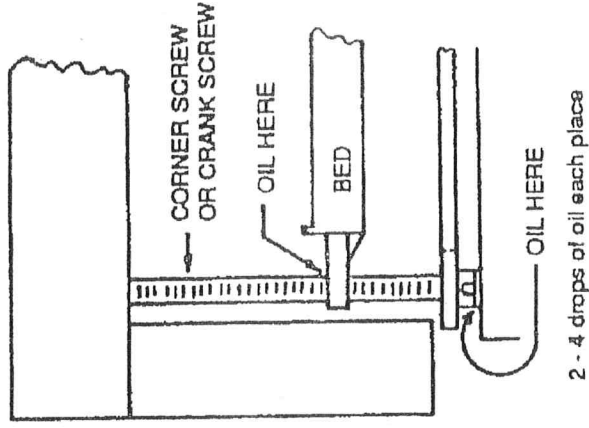

Fig. A-11
1. Oil corner screw and crank screw with 2 - 4 drops at the bed contact and bottom wear washer, as required for ease of turning the crank handle (see fig. A-11).